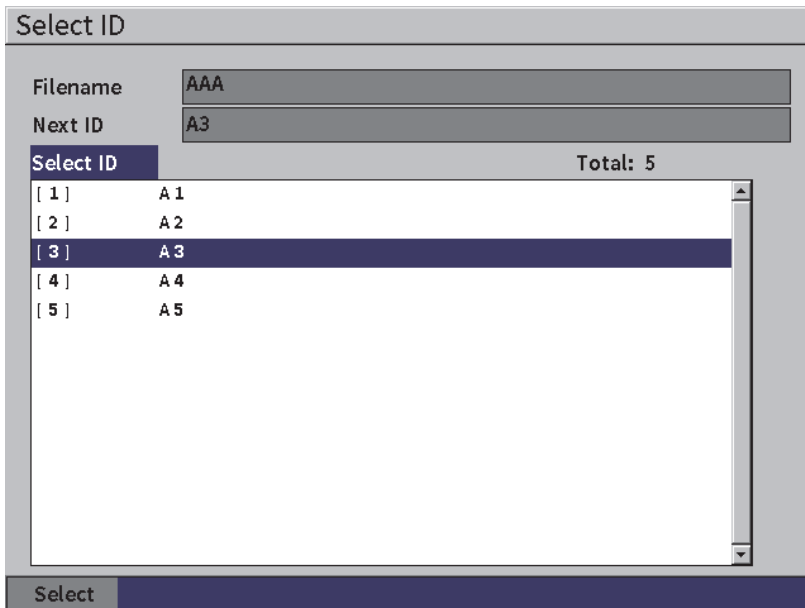

Figure 9-8 Viewing all the IDs in a file
1. While on the setup parameters page (see Figure 9-7 on page 111), press the Tab key to highlight the **Select ID** button, and then press the Enter key to open the **Select ID** setup page (see Figure 9-8 on page 112).